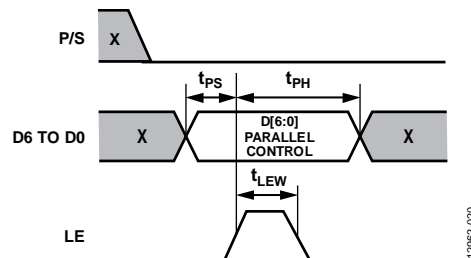

Figure 24. Latched Parallel Mode Timing Diagram
The latch enable (LE) pin must be low when changing the control voltage inputs (D0 to D6) to set the attenuation state. When the desired state is set, LE must be toggled high to transfer the 7-bit data to the bypass switches of the attenuator array, then toggled low to latch the change into the device (see Figure 24).